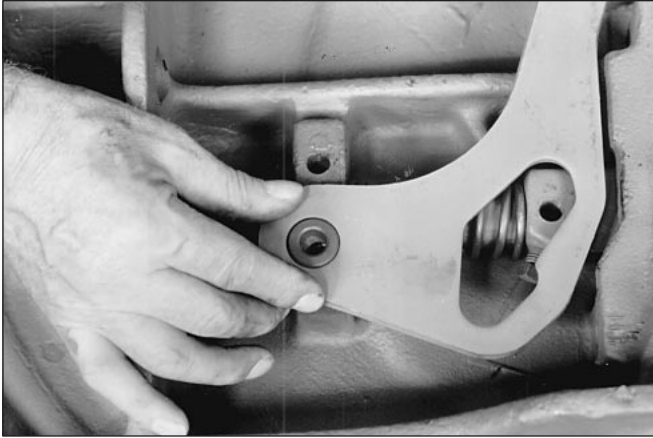

Figure 5
5. Install a 1/2" I.D. roller (*ITEM 7*) in cam anchor hole (see *Figure 5*).